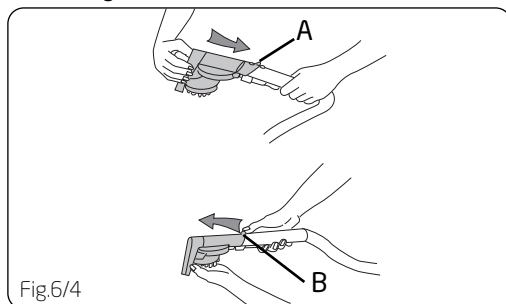

Fig.6/4
Connect tool to hose by sliding it onto connector until the tab (A) locks it securely. Using your thumb, **push forward and up** on the latch (B) to remove tool (Fig. 6/4). **After Using Tool**